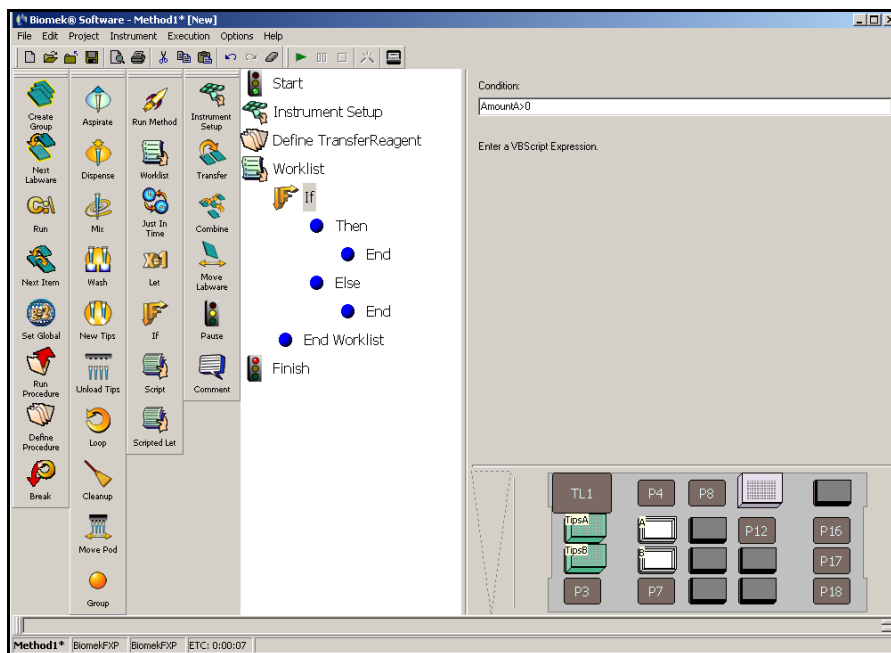

Figure 4-8. Condition entered in If step
2. In Condition, enter **AmountA > 0**. The main editor should look like Figure 4-8.